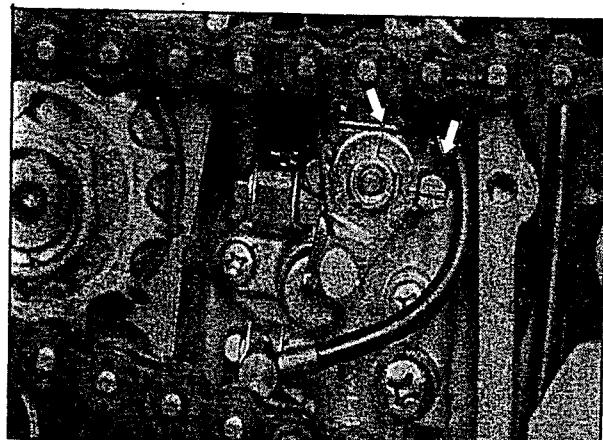

Fig 2.7
- Check whether the mark on the oil pump control lever is aligned with the index mark (fig 2.7) when the throttle valve is positioned as above.